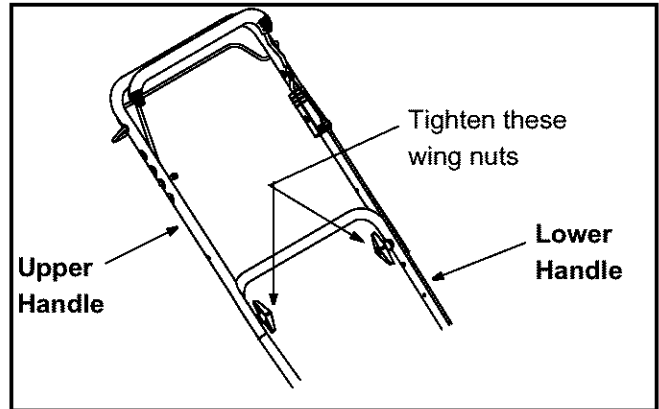

Figure 3
- Raise the lower handle, as shown in Figure 3, until it snaps into place.
- Raise the upper handle as shown in Figure 3.
- Tighten the two wing nuts which are already on the handle. See Figure 3.